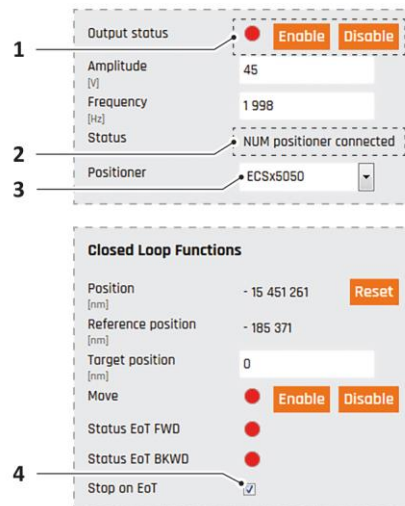

Figure 17 Axis tile, "General" and "Closed Loop Functions" sections
The status display (Figure 17/2) indicates the current status of the axis. The following states are possible:
1. Click on the arrow of the positioner selection field (Figure 17/3).
- To deactivate the option "stop on end of travel", uncheck the stop on EoT checkbox (Figure 17/4).
- To activate the deactivated option "stop on end of travel", check the stop on EoT checkbox (Figure 17/4).
- To activate an axis, click [Enable] on the output status control (Figure 17/1).
- To deactivate an axis, click [Disable] on the output status control (Figure 17/1).